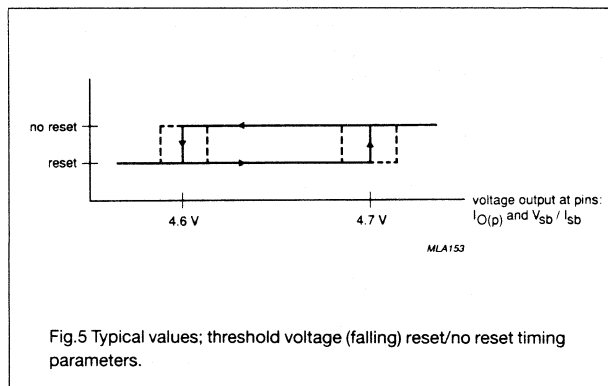

Fig.5 Typical values; threshold voltage (falling) reset/no reset timing parameters.
$V_{sb}/I_{sb}) < 4.6 V$, the watchdog output stage is triggered by a signal from the voltage sense stages and forces a static watchdog reset output pulse (\overline{WRO}/WRO) when both the power and standby output voltage rise above 4.7 V. The duration of the pulse width is determined by the value of external capacitor C7 (see Figs 5 and 18). To operate with external series control transistor, the watchdog function must first be switched on by the enable input (EN).